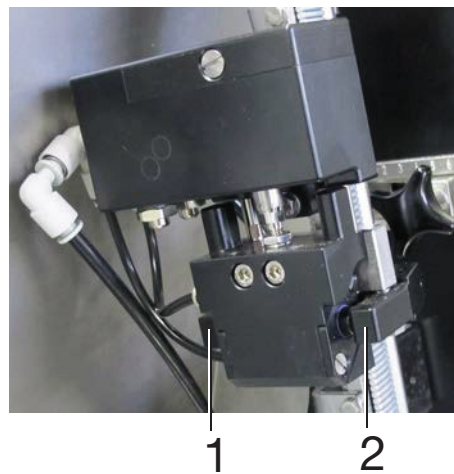

Fig. 5-6 1 Transport lever
- Place the start of clip stick onto the magazine rod, press the upper ends of both transport levers (Fig. 5-6) simultaneously towards each other and push the clip stick into the clipping position.